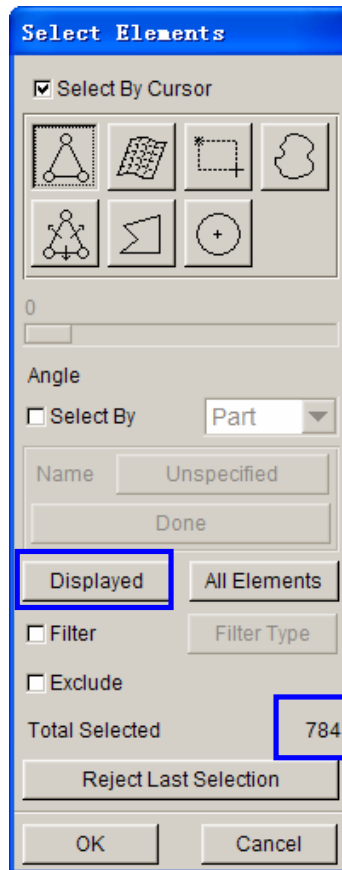

Figure 80: Select elements dialog box
14. Click **DISPLAYED** button to select all elements in the **Select Elements** dialog box. Now, the program indicates 784 elements have been selected. See Figure 80.